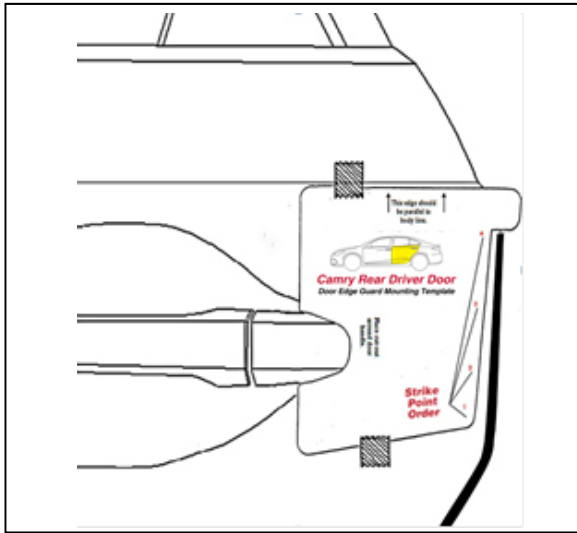

Fig. 1-4
(3) Align the top edge of the DEG (labeled Rear Driver with Green sticker), with the lower edge of the template alignment notch as shown (Fig 1-4).
⚠ NOTE: The top of the DEG can be identified by matching the profile of the DEG to the door profile (Fig 1-4).